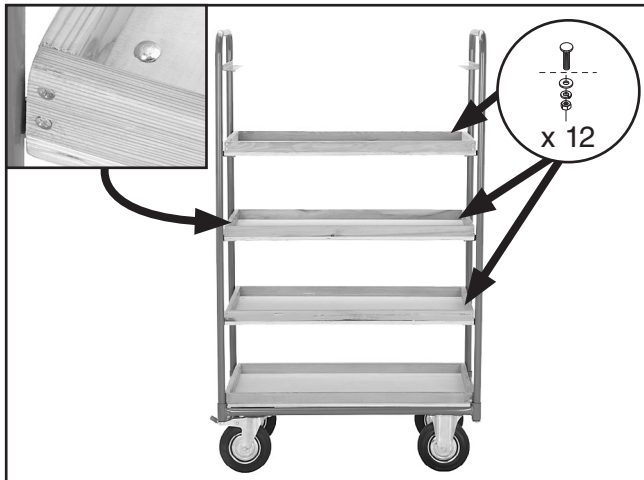

Figure 7. Center shelves installed.
- Slide each center shelf onto a pair of horizontal supports, align the mounting holes in the shelves and supports, then fasten with M6-1 x 25 carriage bolts, flat washers, lock washers, and hex nuts, as shown in **Figure 7**. Finger tighten bolts for now.